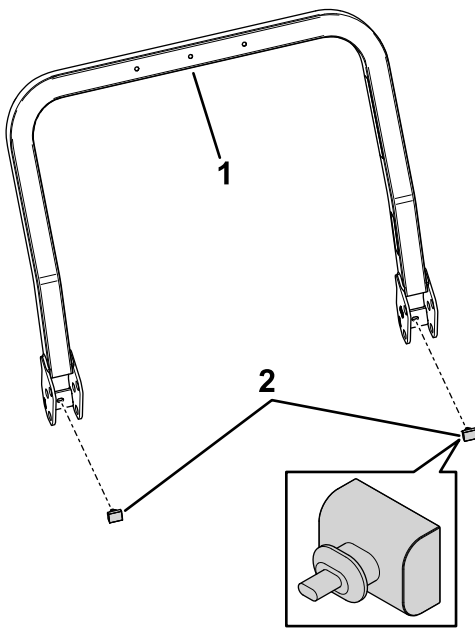

Figure 11
4. Locate the upper roll bar tube. Install 2 rubber bumpers (Figure 11).